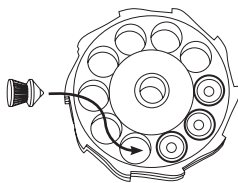

Fig. 9
3. Load pellets through the rear of the magazine. (Fig.9). Push the pellet noses through the retaining O-ring until their skirts lie flush or below the bottom of the magazine face.